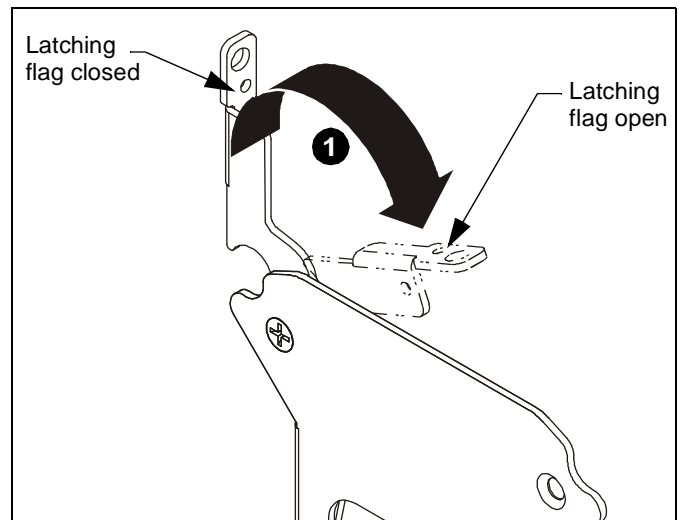

Figure 6
1. Open latching flag by rotating flag clockwise on FPM (A). (See Figure 6)